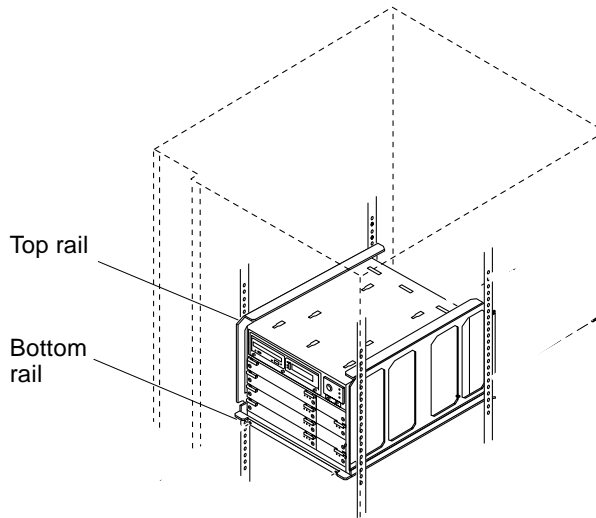

FIGURE E-15 Top and Bottom Rails in System Cabinet
4. **Carefully lift and slide the system chassis into the system cabinet using the bottom rails as a guide (FIGURE E-15).**